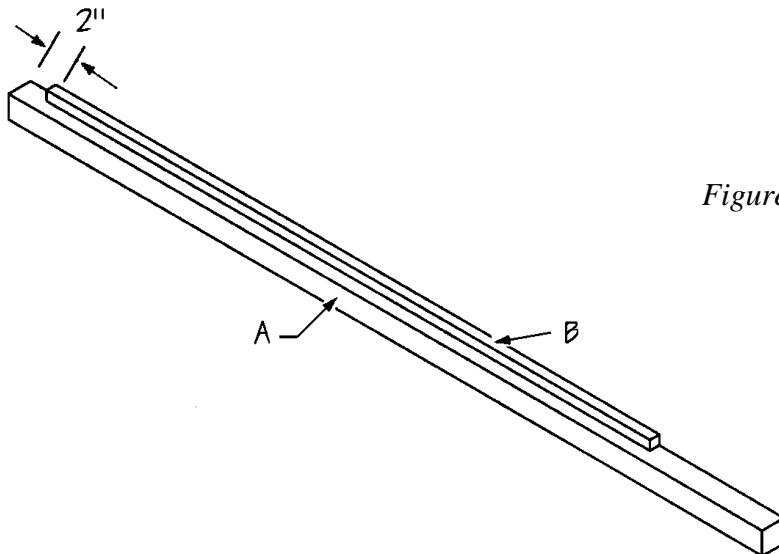

Figure 1
1. Cut two Sides (A) from 4 x 4 pine, each measuring 120 inches.
2. Cut two Side Supports (B) from 2 x 2 pine, each measuring 96 inches.
3. Position one Side support (B) flush with one edge of one Side (A) as shown in *Figure 1*. Note that the Side (A) is 4 inches from one end of the Side Support (B), and extends past the Side Support (B) 20 inches on the opposite end. Apply glue to the meeting surfaces, and screw through the Side Support (B) into the Side (A), using 2-1/2" long nails spaced every 5 inches.